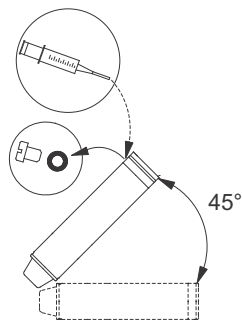

Fig. 4 Motor position during filling, MS 6000C
- If the motor is delivered from stock, the liquid level must be checked before the motor is fitted to the pump. See fig. 4.
- In the case of service, the liquid level must be checked. See fig. 4.
1. Position the submersible pump as shown in fig. 4. Make sure that the filling screw is at the highest point of the motor.
3. Inject liquid into the motor with the filling syringe (see fig. 4) until the liquid runs back out of the filling hole.